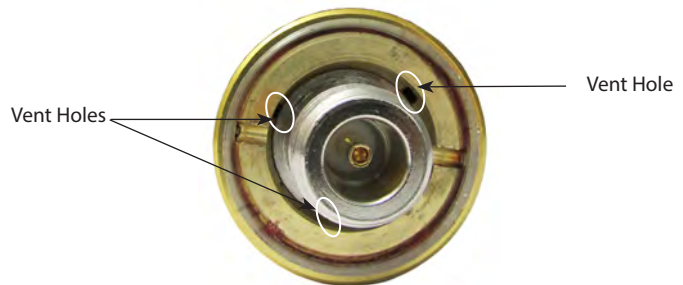

Figure 45: Vent holes at bottom of TX/RX antenna
- On the TX/RX antennas, small vent holes are located at the bottom end of the antenna, next to the Type N female connector as shown in Figure 45.